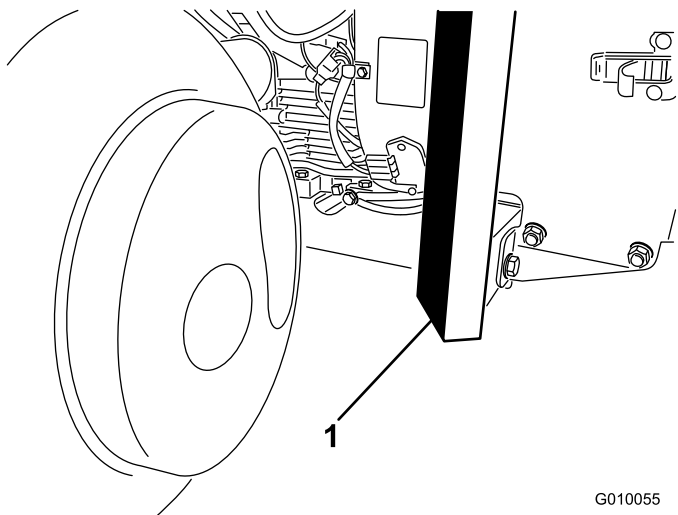

Figure 37
3. Position the jack securely under the front of the frame (Figure 37).